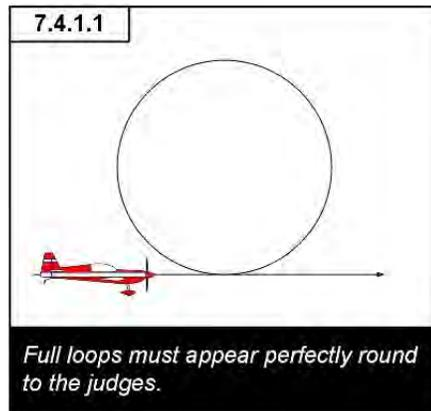

Figure 33
All whole round loops must appear perfectly round to the judge (Fig 33). If required, they must be wind corrected to have a constant radius. This wind correction is not only with regards to the roundness of the loop but also for the effect of any crosswind on the figure. Therefore, a standard deduction of 0.5 points per five (5) degrees shall be applied if the finish point is displaced in a direction perpendicular to the